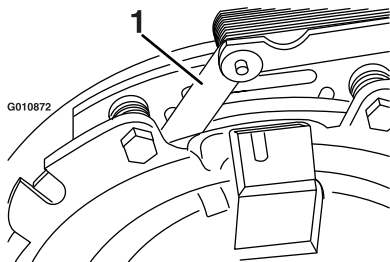
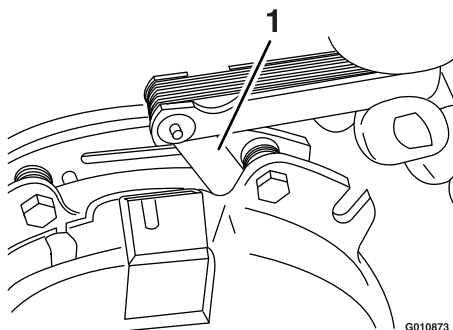

Figure 85
Figure 86
- E. Using a 0.25 mm (0.01 inch) thick feeler gauge, verify that a gap is present between the rotor and the armature face on both sides of the brake pole as shown in Figure 85 and Figure 86.